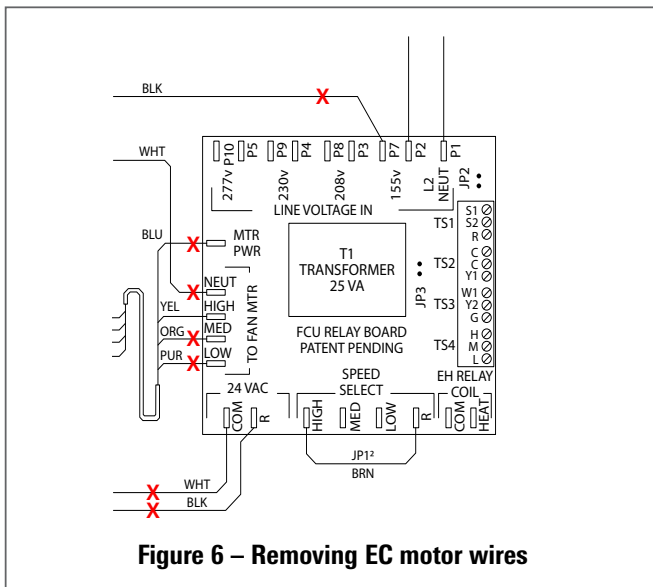

Figure 6 – Removing EC motor wires
2. EC motors. (See Figure 6.)
- v. Remove BLACK wire from "LINE VOLTAGE IN" portion of FCRB. (NOTE: For dual motor units ONLY, there will be two wires connected. Remove butterfly/Y connector and remove both wires from connector). Exact location of wire will be determined by the unit's voltage. (115V shown in Figure 6.)